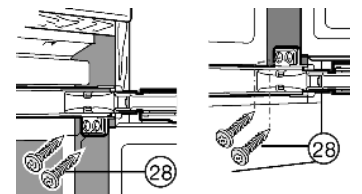

Fig. 19
- ▶ Screw chipboard screws *Fig. 19 (28)* on both doors at the top and at the bottom through the hinge plates.